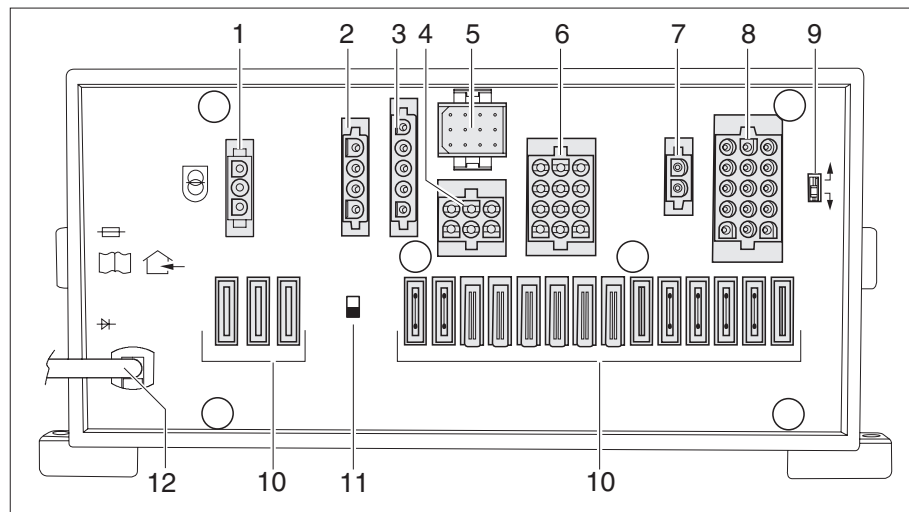

Fig. 88 Electrical block (EBL 31-2)
The EBL 31-2 (Fig. 88) electrical block is located under the driver's seat or under the seat bench, depending on the model.
- The battery cut-off switch (Fig. 88,11) disconnects all the appliances that are connected to the transformer/rectifier from the 12 V network.
The battery cut-off switch (Fig. 88,11) switches off all the living area 12 V appliances, including even the safety/drainage valve. This prevents the living area battery from slowly discharging if the vehicle is not used for a longer period of time (e.g. temporary lay-up).
- Push the battery cut-off switch (Fig. 88,11) upwards: Battery on.
- Push the battery cut-off switch (Fig. 88,11) downwards: Battery off.